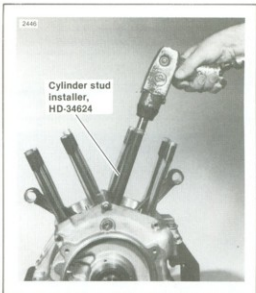

Figure 3-42. Installing Cylinder Studs
- See Figure 3-42. Apply a film of engine oil to threads of stud and drive stud into crankcase hole with the CYLINDER STUD INSTALLER, Part No. HD-34624 and an air or electric impact wrench. Do not use a ratchet or breaker bar since they will bend the stud.